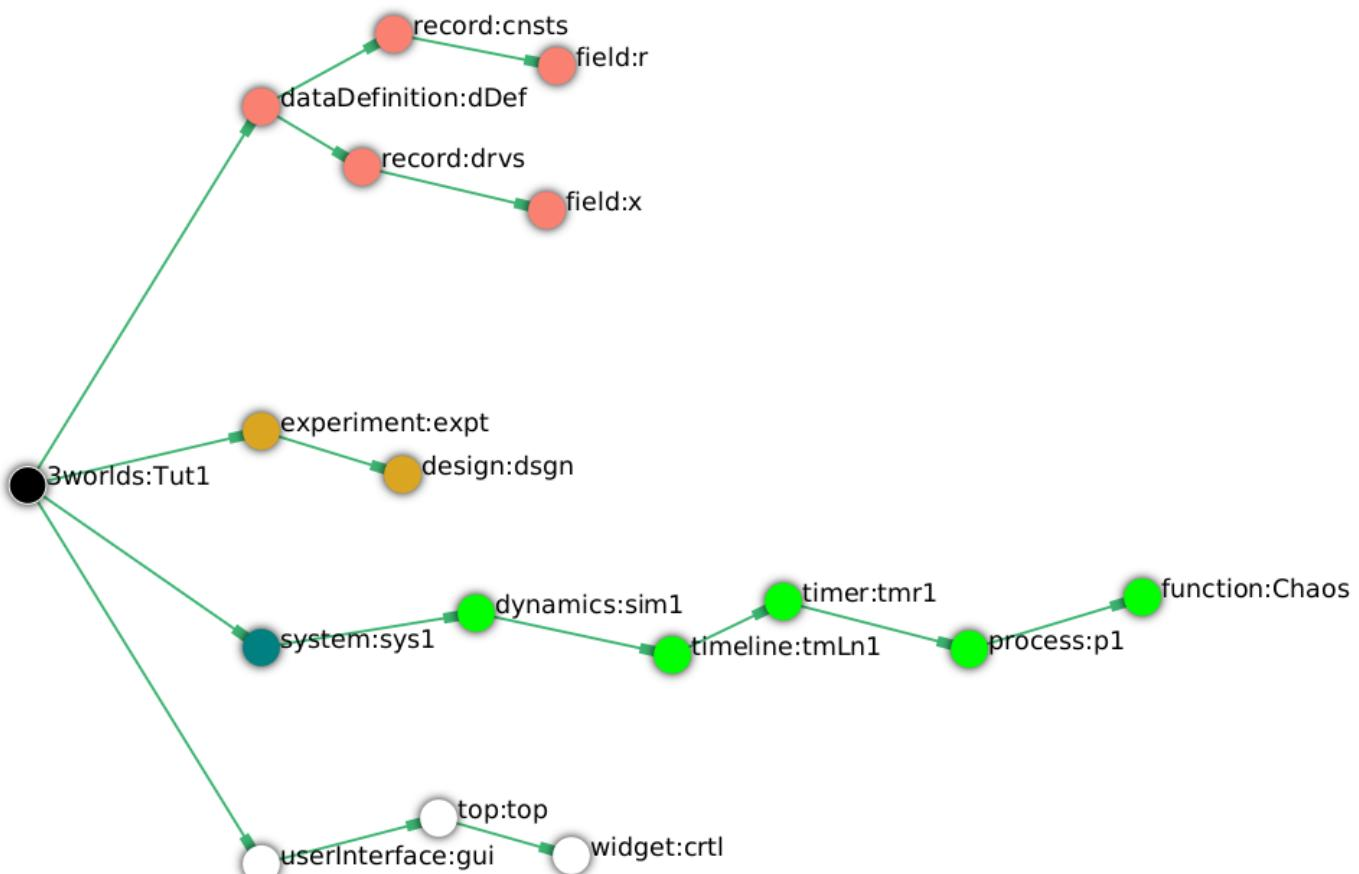

Figure 30. A view of the specification graph showing principal nodes of interest.
3. Re-apply the layout (L) (Figure 30).